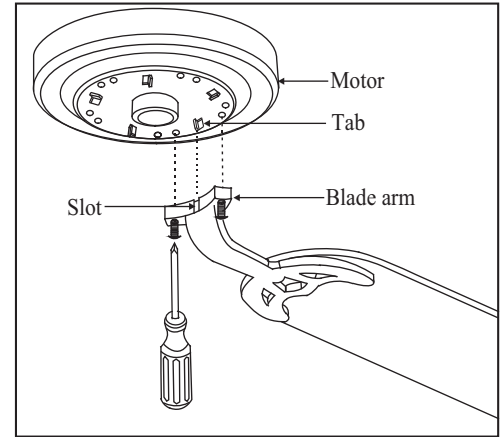

Figure 15
3. Fasten the blade assemblies to the motor housing by lining up the slots of the blade arms with the tabs on the motor housing, then tighten the two screws and washers already installed in the blade arms (Fig. 15).